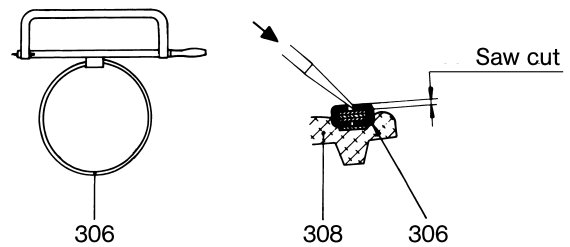

Figure 2: Removal of the clamping band.
- Dismount vent line for mechanical seal (224).
- Remove hexagon nuts (618) and spring ring (619) as well as hexagon screws (617).
- Withdraw discharge casing (504) over the rotor (401). In doing so, see to it that the precision-machined rotor is not damaged.
- Remove gasket for discharge casing (511).
- Cut buckle on clamping band (306) with a metal saw, and with a screw driver, press out to both sides. Remove clamping band (306) from the cover sleeve (308) (please refer to Figure 2 below).